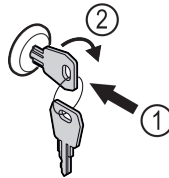

Fig. 72 Example illustration
- ▶ Insert key Fig. 72 (1).
- ▶ Turn key clockwise by 90° Fig. 72 (2).